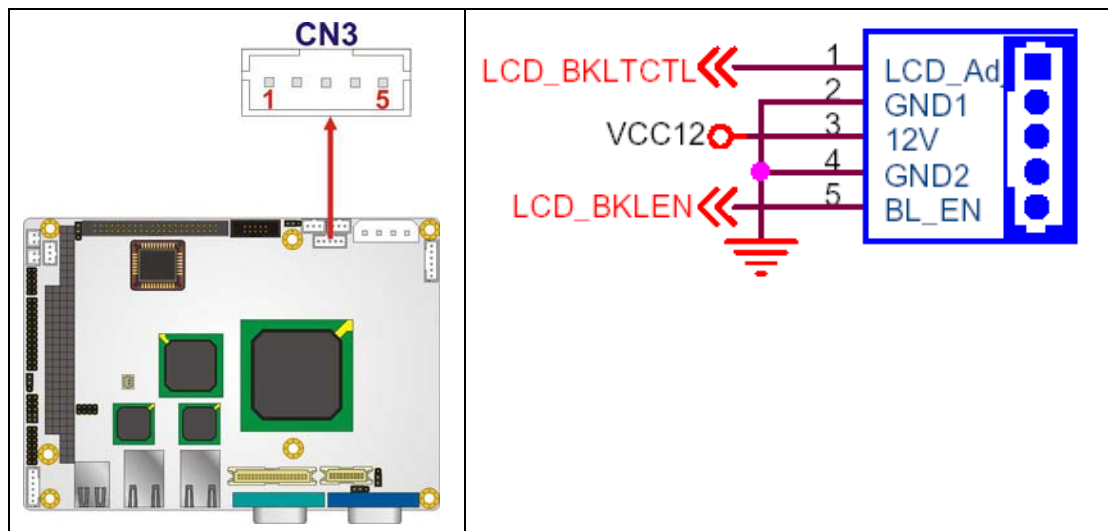

Figure 4-7: Panel Backlight Connector Pinout Locations
- CN Location:** See **Figure 4-7**